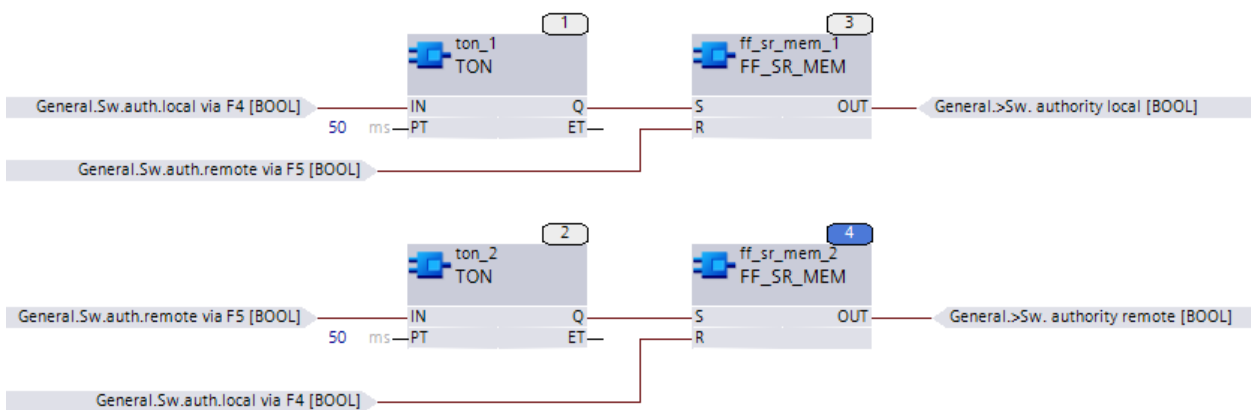

Figure 4: CFC chart for the activation of the switching authority with function keys
8. Create the CFC plan as shown in figure 4.